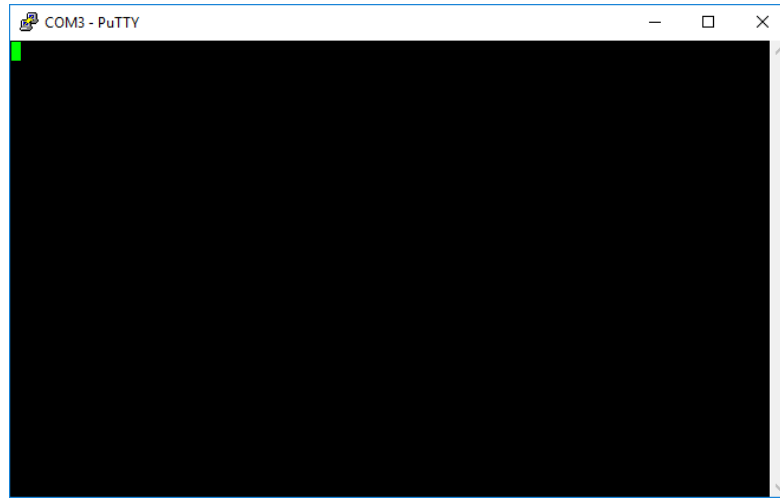

Figure 16. PuTTY terminal window for FRDM-KL05Z on COM3
- e. On the PuTTY Configuration window, click the Open button at the bottom right to open a terminal window for the FRDM-KL05Z as shown in Figure 16.